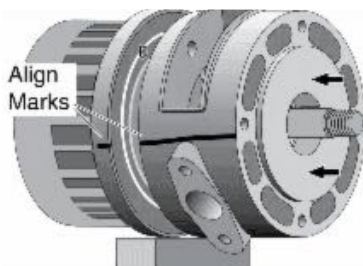

Figure 34
4. Carefully slide the adapter over the shaft (see Figure 34). Do not damage the shaft sealing surface; it is highly polished and any slight scratches or nicks will ruin it.